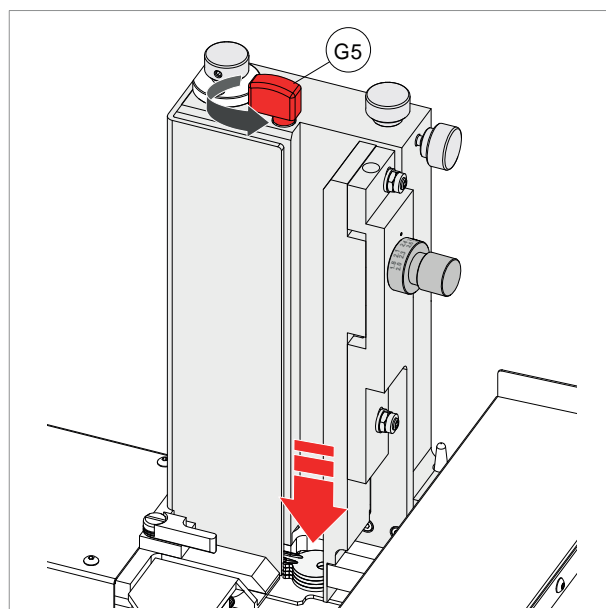

Fig. 124
- 4) Rotate the lever (G5) 90° to let the keys drop down (Fig. 124).